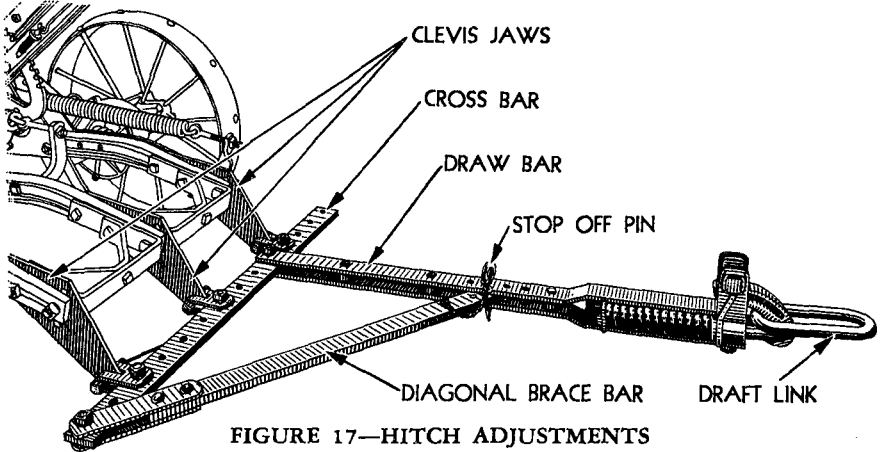

FIGURE 17—HITCH ADJUSTMENTS
b. Horizontal hitch adjustment. This adjustment is provided so the plow can be hitched to pull straight and in proper working position with each furrow wheel cutting a furrow slice 14 inches wide behind prime mover. Whether opening the land or doing regular plowing, the drawbar should always be approximately parallel to line of travel. To adjust drawbar, move right or left on cross bar, and then adjust diagonal brace bar to proper position, and lock with stop off pin. (Figure 17.)